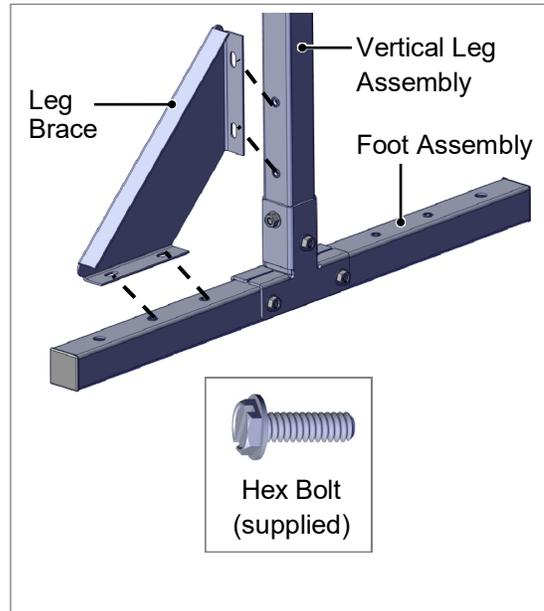

Fig 4. Attach Leg Brace.
2. Attach one Leg Brace to the Vertical Leg Assembly/Foot Assembly with four (4) Hex Bolts (Fig 4). Repeat this step on the other side.